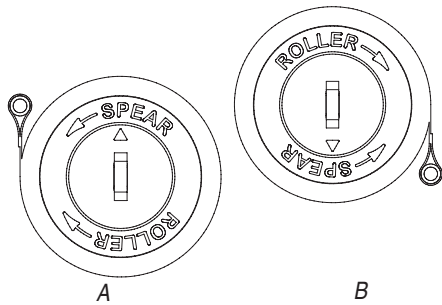

Figure 6
- ⑧ The Spear Retaining Clip must be installed around the idler-end shaft as shown in Figure 6 to prevent the roller assembly from moving left or right during operation, and to insure that the spring-loaded shaft does not retract into the mechanism in case of a bearing failure.